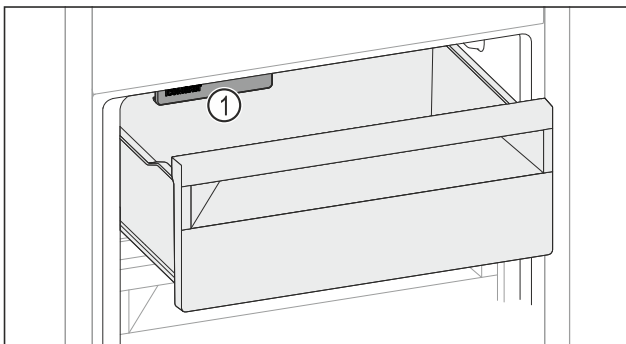

Fig. 122
- ▶ Pay attention to the IceMaker Fig. 122 (1).